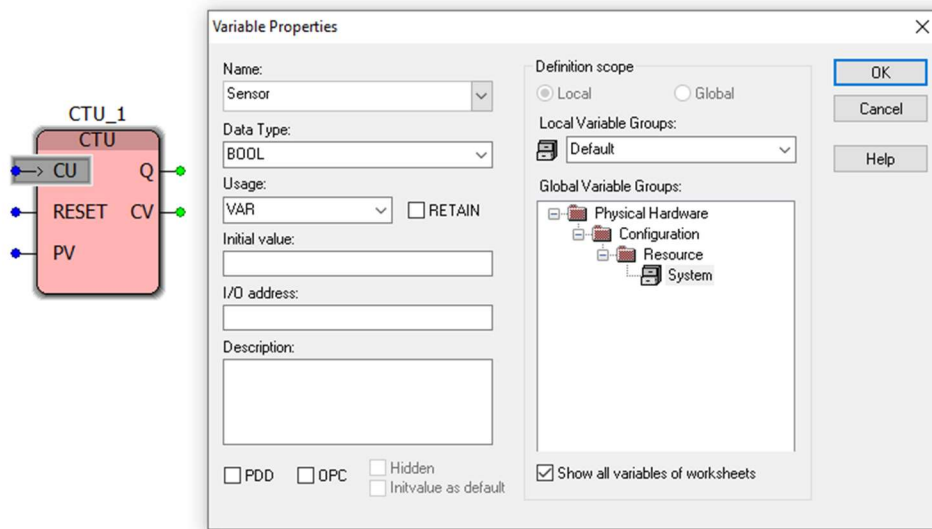
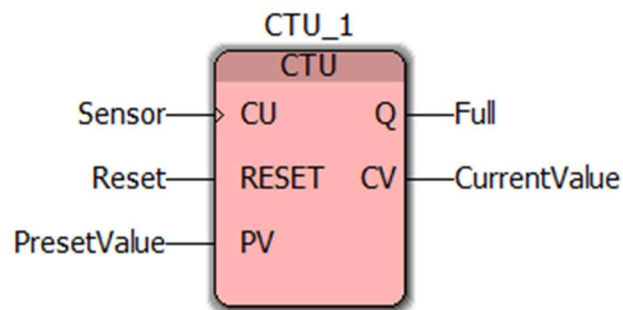

Figure 15: CTU Count Up (CU) Variable Properties
Figure 17: CTU Current Value (CV) Variable Properties
- Double-click 'CU' on the CTU block and name it so that it matches with Figure 15 and repeat the process for all the variables to match with Figure 17.
- Once you are done configuring all the variables and the block matches Figure 17, click 'Download Changes' which is shown in Figure 18.